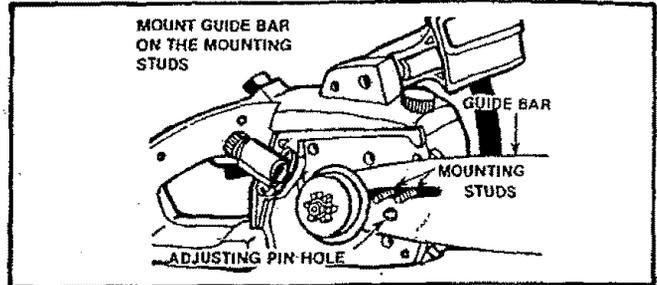

Figure 9
3. Place the Guide Bar on the saw by fitting the long slot in the Guide Bar over the two mounting studs. Figure 9.